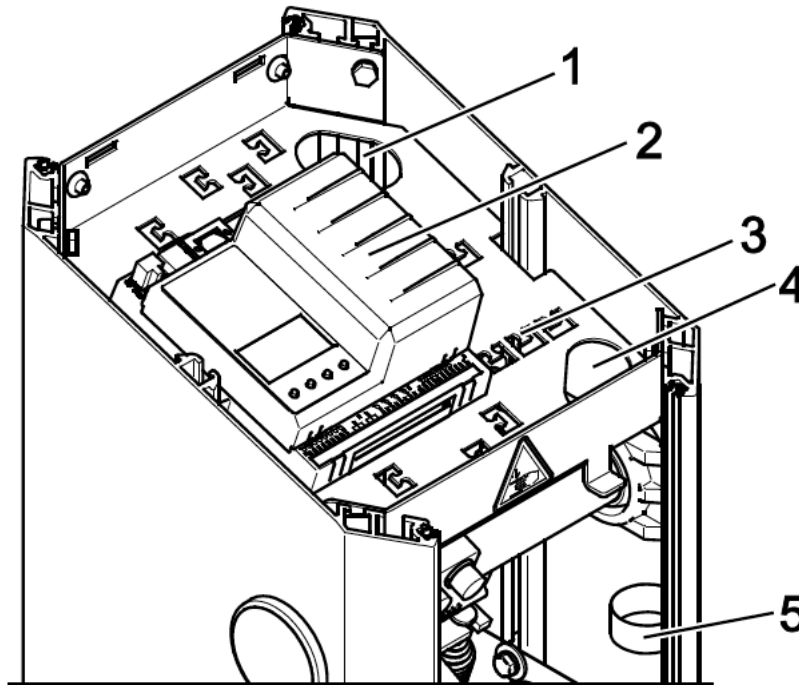

fig. 2.2a
1. Route signal wire from bottom of gate housing through cable clamps (fig. 2.2a #5) through cable opening front (fig. 2.2a #4). Strip cable ends back about 1/4". Ensure at least one cable tie anchor point is used to relieve tension on cable (fig. 2.2a #3).